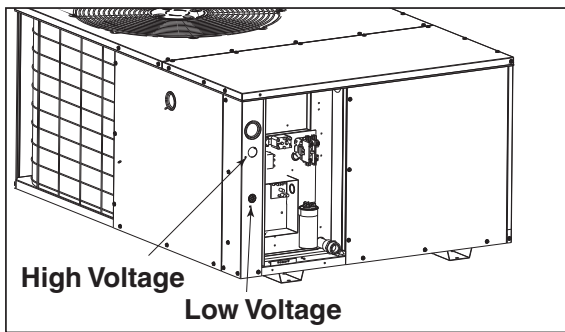

Figure 9. Power Entry
- Extend leads through power wiring hole provided. Connect L1 and L2 directly to the contactor. (See Figure 9).